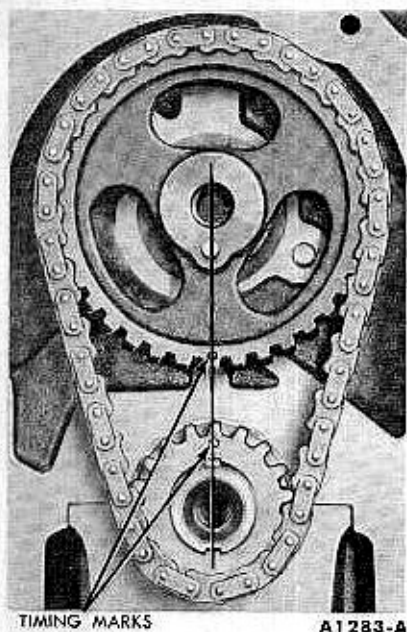

FIG. 42—Aligning Timing Marks
2. Position the sprockets and timing chain on the camshaft and crankshaft (Fig. 21). Be sure the timing marks on the sprockets are positioned as shown in Fig. 42.